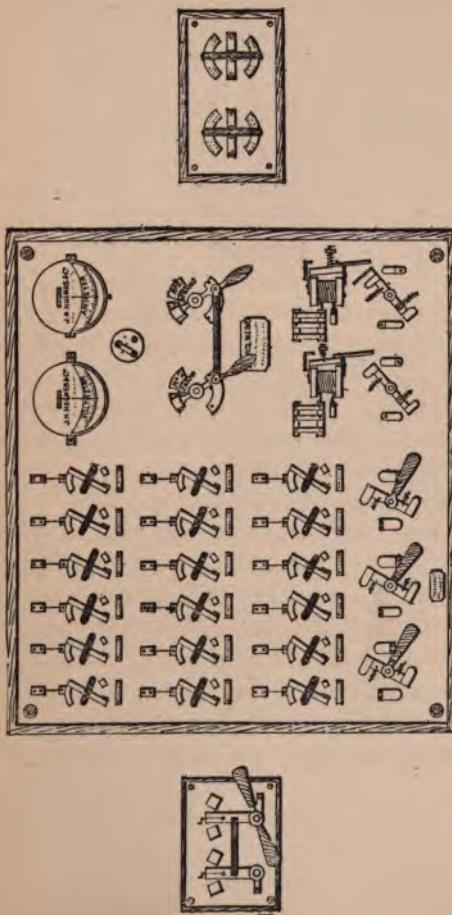

Fig. 91.—Switch-board of *The City of New York*.
*Upper Dynamo Room.*—A room in another part of the ship, on the main deck, is furnished with two "Castle" dynamos, compound wound slow speed, driven direct by Gwynne compound engines. Each of these machines when running at 230 revolutions has an output of 200 amps and 100 volts, steam being supplied by boilers on the same deck. A separate switchboard controls the lights supplied from these machines as per diagram (Fig. 91). Hence it will be apparent that in the event of an accident causing the engine-rooms or stokeholds to be flooded, the Inman Company have very wisely provided against anything like a panic occurring amongst passengers owing to the ship being in darkness. The dynamos and switchboard in this room were manufactured by Messrs. J. H. Holmes and Co., of Newcastle.
A search-light apparatus is provided, this being worked from the forward part of the ship, and regulated by the four-coil resistance shown in Fig. 91.
Looking at the sketch of switchboard No. 2 (Fig. 91), it will be seen that all the branch circuits can be placed in either the position shown, *i.e.*, on the left hand bottom stud, or they can be reversed and placed on the stud to the right. One position disconnects all the circuits from the main switchboard (No. 1), and the other puts them in connection with it.